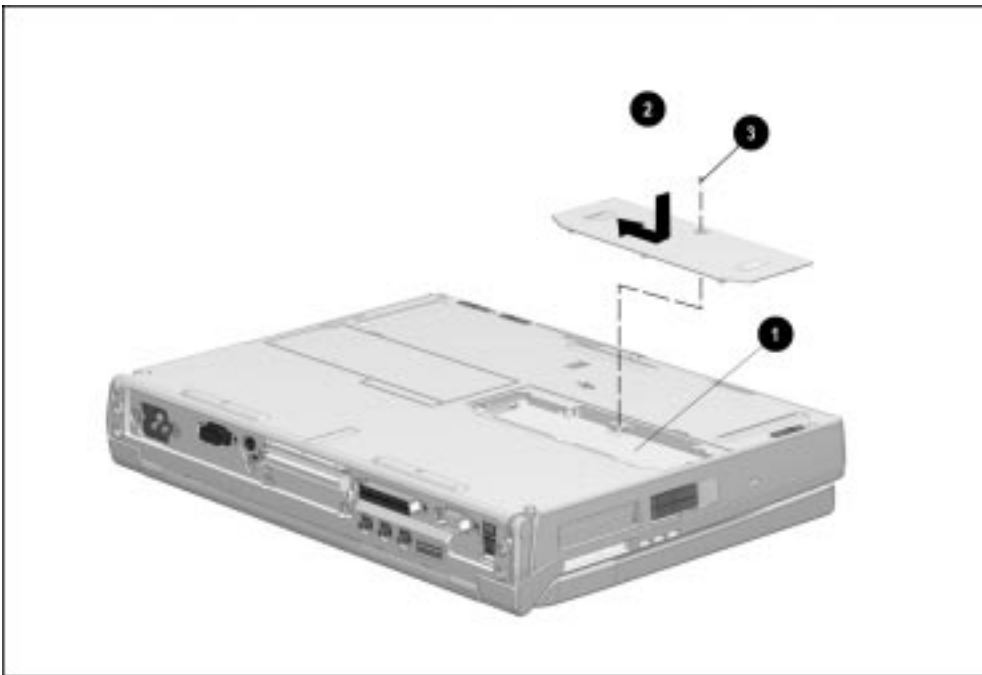

Figure 5-28. Replacing the Memory Expansion Slot Cover
1. Reset the memory insulator ❶ over the installed memory expansion board(s), ensuring that all edges of the memory insulator are tucked inside the memory expansion compartment (Figure 5-28).
2. Replace the memory expansion slot cover ❷ by placing it flush over the memory expansion compartment, then sliding it left until it is seated.
3. Secure the memory expansion slot cover to the computer with a memory expansion slot cover security screw ❸ or a standard Torx T-10 screw.